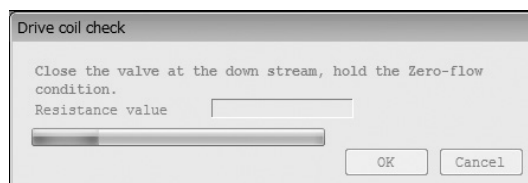

Fig.108
- ④ During the check, a progress bar will appear as shown in Fig. 108, allowing for the confirmation of the state of the check.